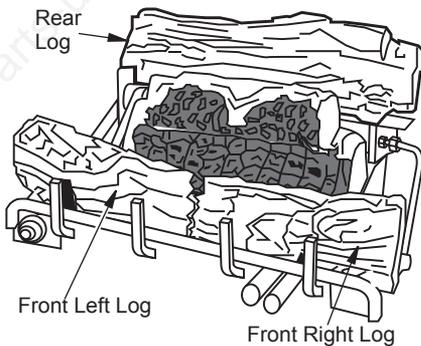

Figure 26 - Installing Logs
3. Place front left and right logs and rear log as shown in Figure 26.